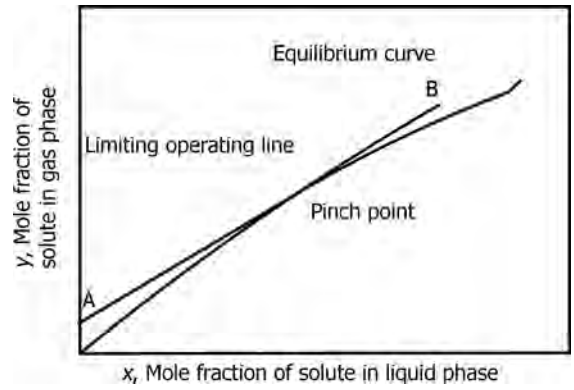

FIGURE 17.4 Limiting operating line for systems involving heat effects.
- Slope of the limiting operating line gives, minimum liquid rate, $(L_m)_{min}$ for a given gas flow capacity, G_m . Where acidic gas absorption involving considerable heat effects, pinch point can occur at a point inside the absorber as shown in Figure 17.4.